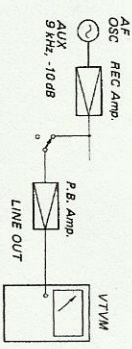

Fig. 12-31 Noise suppress check setup
- Connection: As shown in Fig. 12-31.